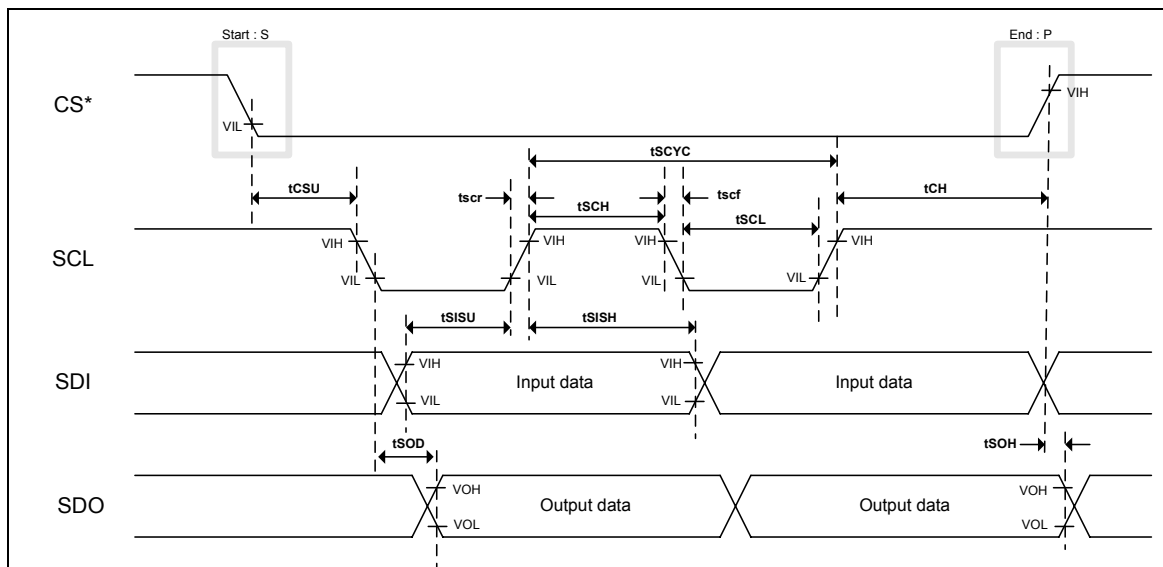

Figure 84 Serial Peripheral interface operation
**Table 103** See Figure 84 (Condition: IOVcc = 1.65 to 3.30V, Vcc = Vci = 2.50 to 3.30V)